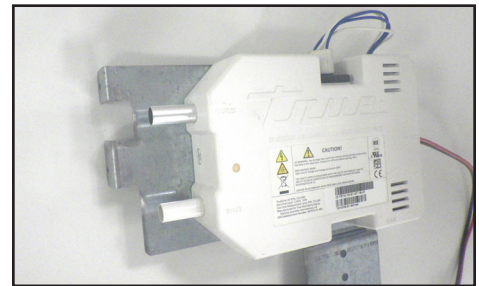

Fig. 2. The TrueZone correctly positioned on its bracket.
4. Align the holes on the TrueZone's back with the holes in the TrueZone bracket. See figs. 2 and 3.